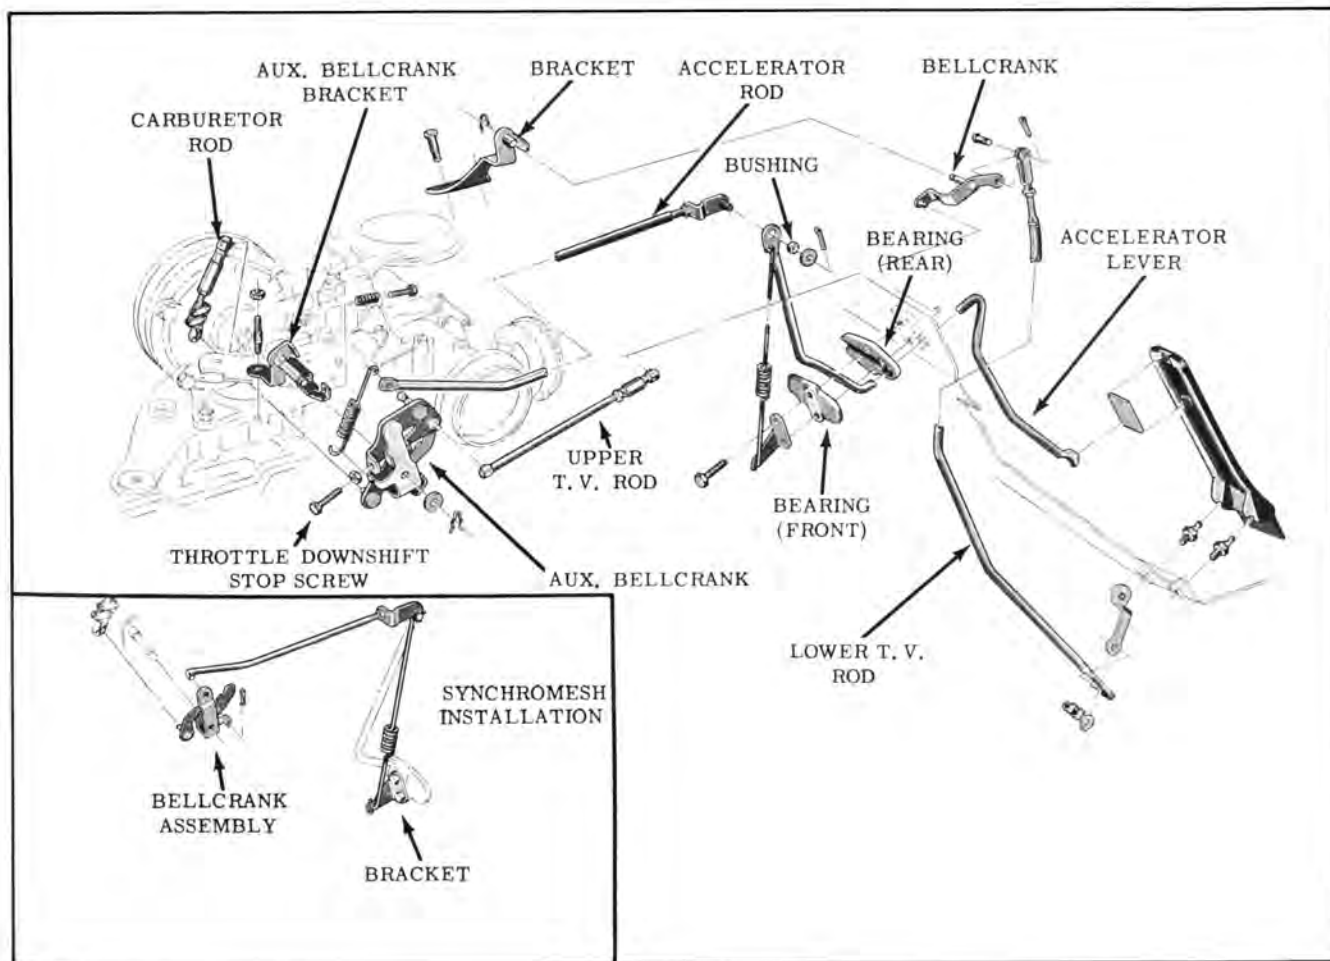

Fig. 8-129 Throttle Linkage
16. Loosen the throttle downshift stop screw lock nut and back off stop screw approximately six (6) turns. With the accelerator lever, move the throttle to wide open and over travel the linkage to point of maximum transmission T.V. lever travel. (Fig. 8-129)